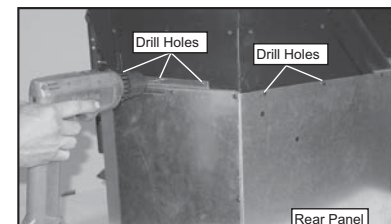
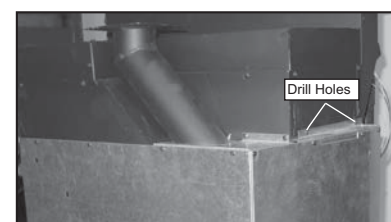

Figure 21.5
Figure 21.6
6. Beginning at the right shroud panel drill into hopper body through the 3 pre-drilled openings and the 2 pre-drilled openings on the rear shroud panel. **Figure 21.5.** Continue around to left shroud corner panel at the 2 pre-drilled openings. **Figure 21.6.** Secure with screws to insert.